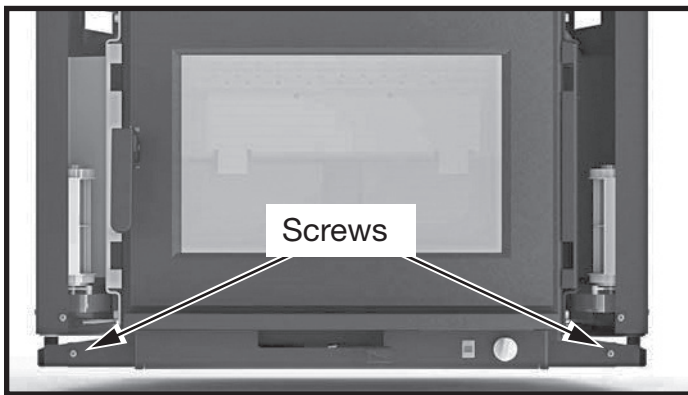

Figure 8: Control assembly screws.
1. Remove the two screws securing the control assembly to the unit and then disconnect the wires leading to the right side blower (Figure 8).
3. Attach the front surround by inserting the surround hooks into the slots in the front surround mounting bracket, between the blower bracket and the firebox, on both sides and sliding down to engage the hooks onto the brackets (Figure 8).